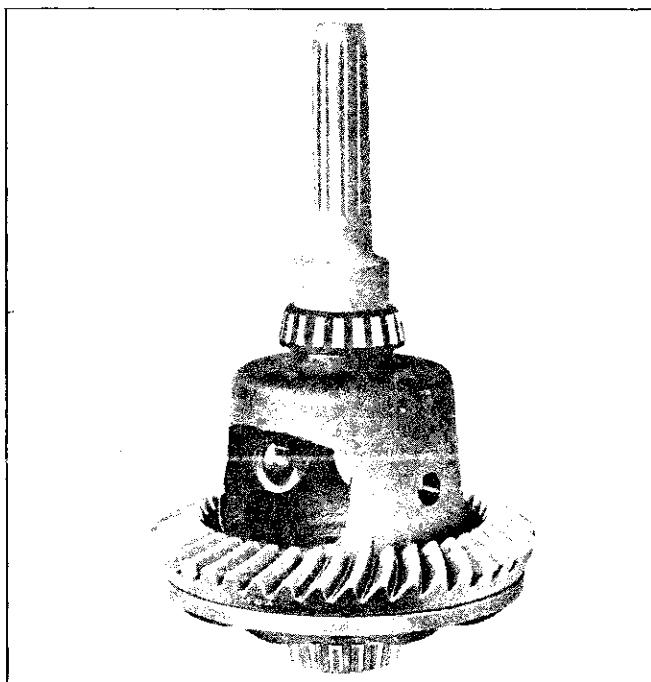

Fig. 4B-8 Installing Differential Side Bearing
4. If side bearings were removed, lubricate the bearings and install on case hubs, as shown in Fig. 4B-8, using tool J 5292.